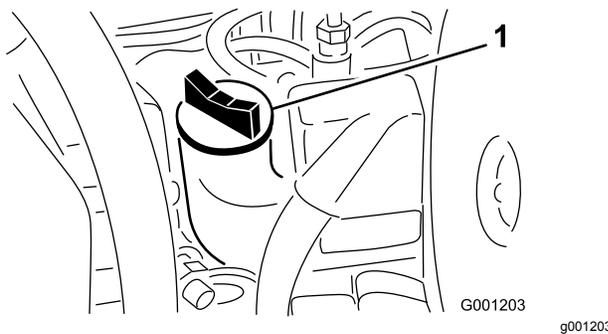

Figure 49
4. If the oil level is below the Full mark, remove the fill cap (Figure 49) and add oil until the level reaches the Full mark on the dipstick. **Do not overfill.**